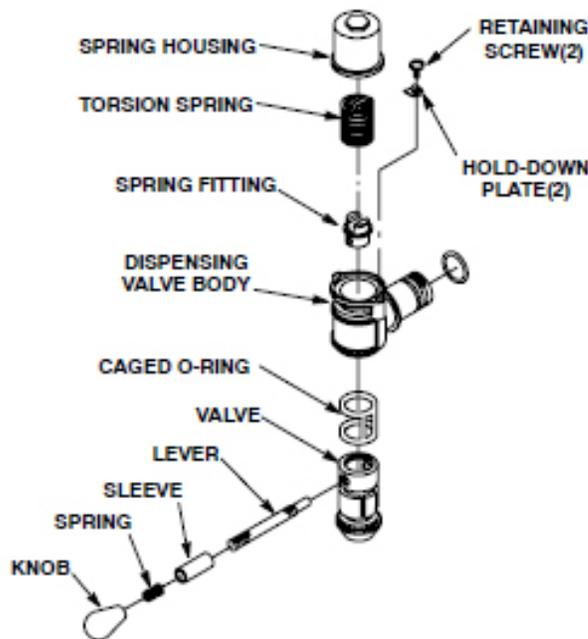

Figure 10. Self-Closing Dispensing Valve
Refer to Figure 10 and perform the procedure in Table 12 to lubricate or change caged o-rings in each dispensing valve.
6.	Disassemble the dispensing valve (see Figure 10).